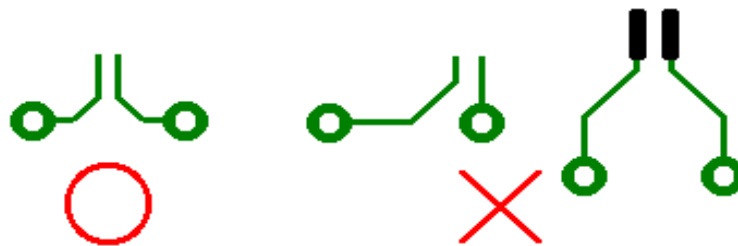

Figure 2.13
4. The crystal traces shall be symmetrical and parallel in order to get better oscillation wave form and better EMI protection (as shown in **Fig. 2.13**).